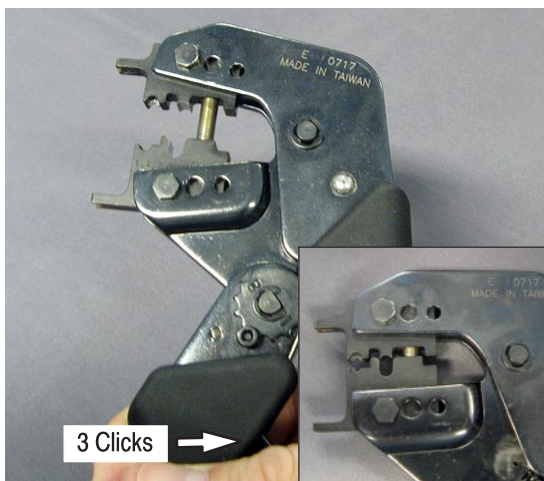

Figure 82
9. Fully open the crimp tool and then close it three clicks to set the position of the die. See Figure 82.